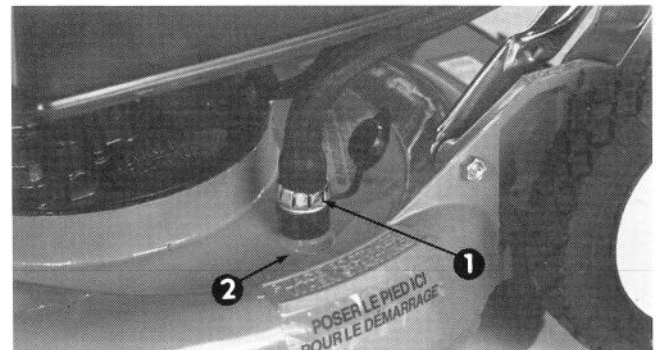

Figure 15
- Start the engine. Insert end of hose, without nozzle, into wash-out port opening (Fig. 15).
To reduce potential accidents, never perform an adjustment or maintenance procedure while the engine is running. Pull high tension wire (Fig. 15) off spark plug to prevent an accidental start.